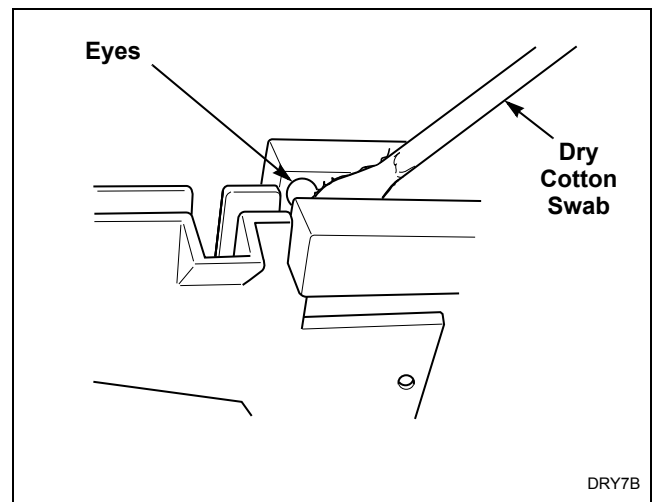

Figure 22
- Check coin drop sensor for dust or dirt on eyes. Wipe eyes with dry cotton swab. Refer to *Figure 22*.